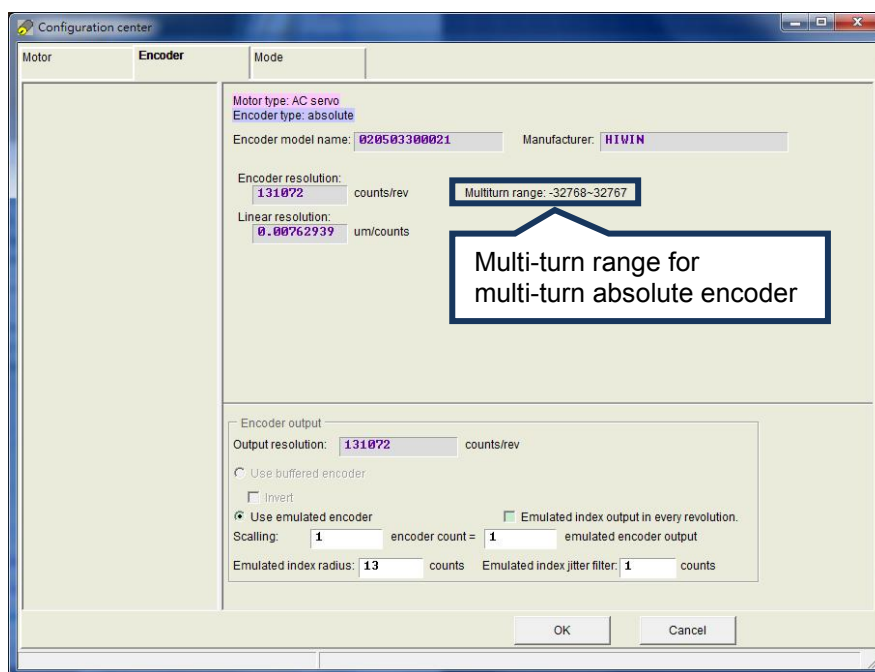

Figure 5.2.2.1.1 Encoder configuration page for 17-bit encoder
For HIWIN AC servo motor with the 13-bit incremental encoder, simply selecting the purchased motor model name, the program will automatically connect to encoder parameters suitable for this motor, as shown in figure 5.2.2.1. For example, for the 9-th bit of motor model name being 5, the program will automatically connect to the digital rotary encoder with the resolution being 10,000 counts/rev.
For HIWIN AC servo motor with the serial encoder, it does not need to set encoder parameters, since they are already saved in the encoder, as shown in figure 5.2.2.1.1. For example, for the 9-th bit of motor model name being 4 or 6, the program will automatically read encoder parameters and show the resolution being 131,072 counts/rev. When using the 9-th bit of motor model name being 4 (with multi-turn absolute encoder), it also shows “Multiturn range” of this encoder. The multi-turn range of HIWIN absolute encoder is -32,768 to 32,767.
HIWIN dual-loop model supports the 17-bit multi-turn absolute encoder (the 9-th bit of motor model name is 4) and the digital AqB linear encoder. Its encoder configuration page is given in figure 5.2.2.1.2.
- b When the option of “Dual loop” is checked, users must key in the resolution of linear encode, as shown in figure 5.2.2.1.3. If some encoders are powered on longer, the delay time should be set in the “Power-on time” field based on their specification to avoid occurring encoder error during the boot process. Moreover, there are two options of “Use buffered encoder” and “Use emulated encoder”, that can be chosen in the “Encoder output” area. These two output modes adopt the position signal of linear encoder. At this moment, the function of “Emulated index output in every revolution” is invalidated, and the option is anti-gray and cannot be checked.